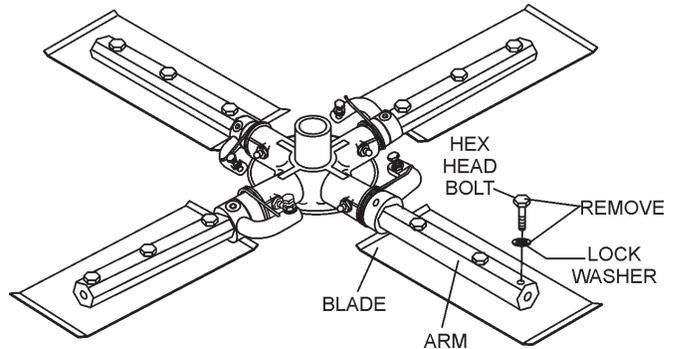

**Figure 46. Stabilizer Ring**
1. If the trowel is equipped with an outer stabilizer ring (Figure 46), remove the four bolts at the end of each spider arm.